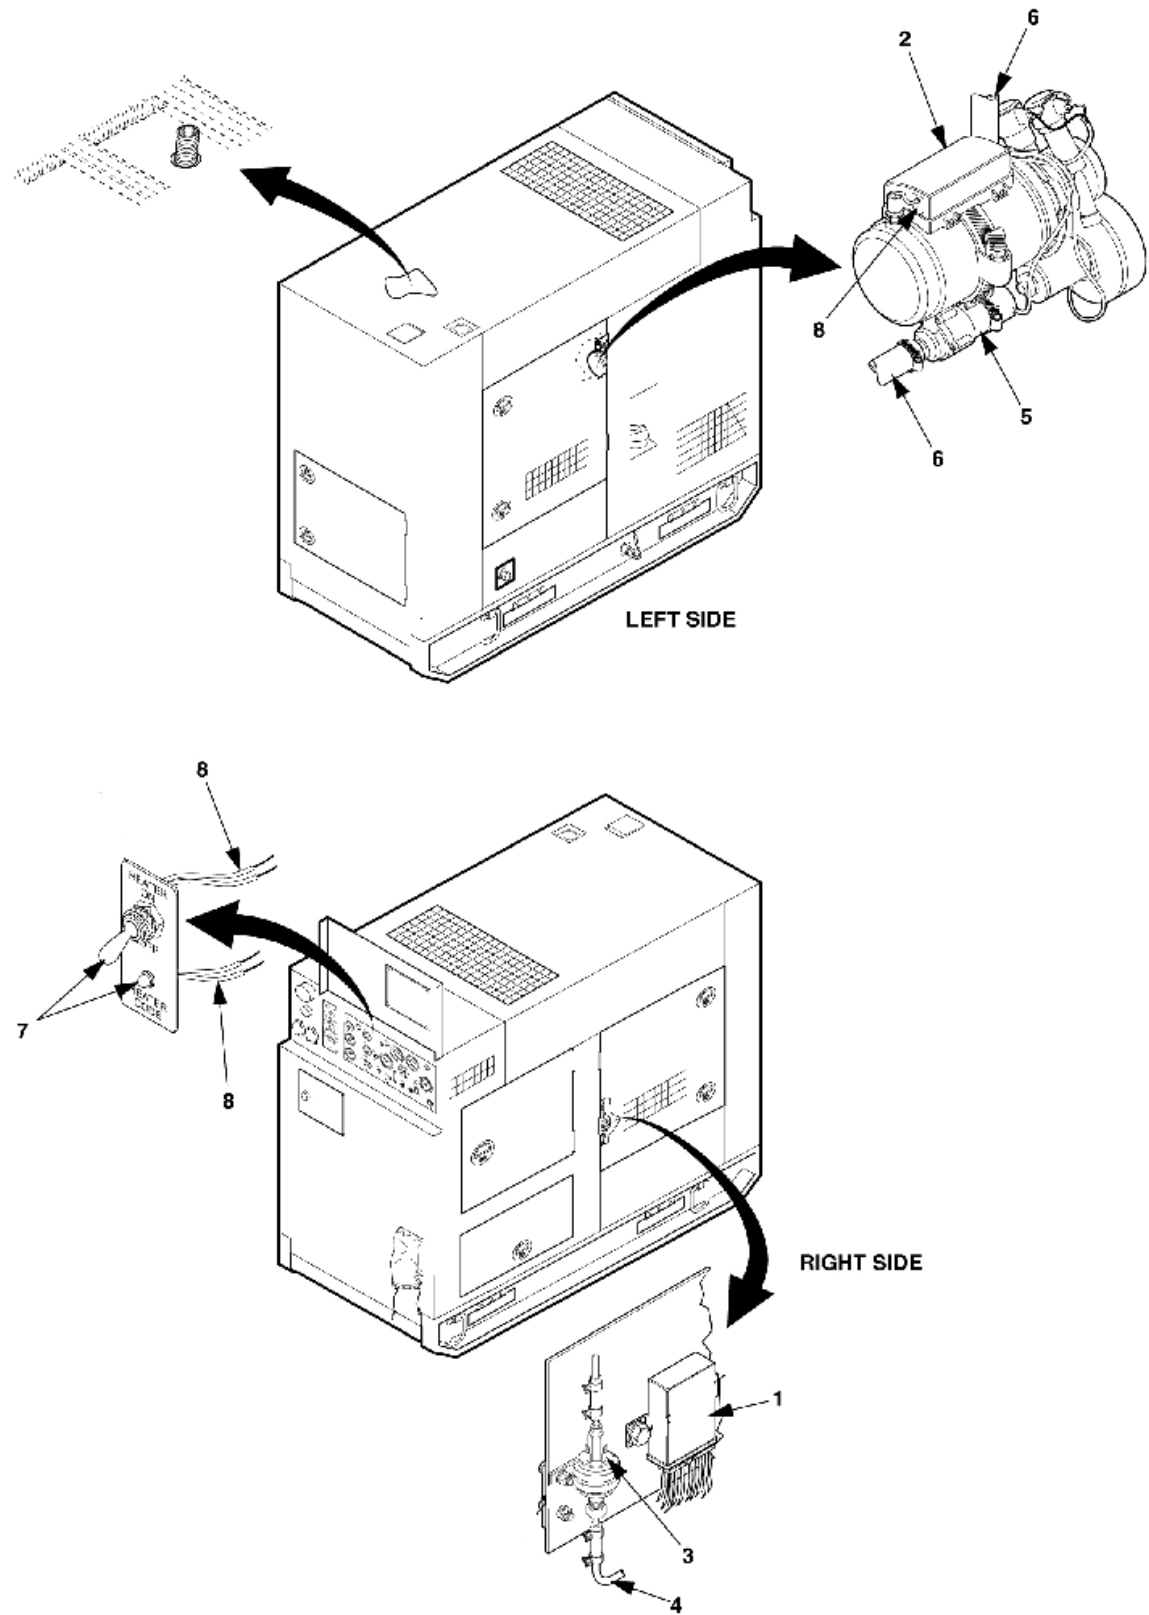

Figure 1-1. Location of Major Components for 30kW (MEP-805A, MEP-815A).
Figure 1-1 illustrates the major components of the kit and shows their locations on the 30kW Tactical Quiet Generator Set. (Refer to Table 1-1 for item names).
**2-1.1.1 Heater Indicator Light.** A light at the heater ON-OFF switch (item 7, figure 1-1) lights when the heater is operating. The light also serves as a troubleshooting code light (See paragraph 3-1.1).